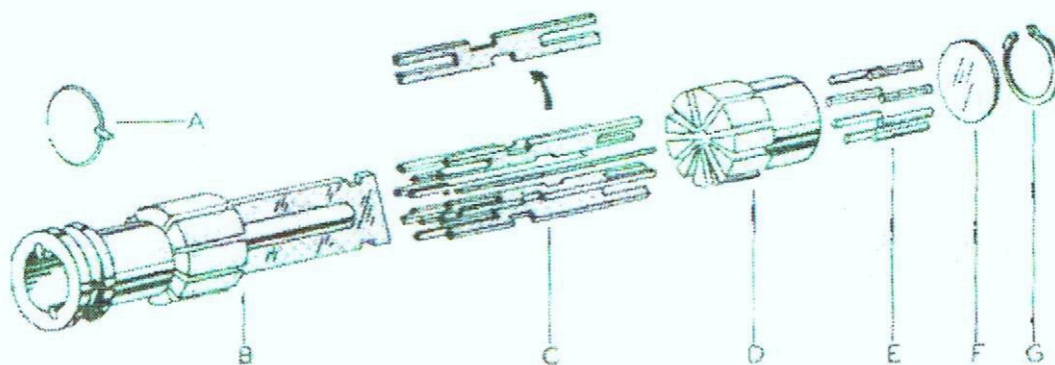

Figure 5
With the new combination determined, the plug is ready for disassembly, (See Figure 5). With No. 2 Tru-Arc pliers, the retainer ring (G, Figure 5) can be removed from the back
of the plug. This will allow the spring chamber (D, Figure 5) to be lifted away from the back of the plug. Note that the spring chamber will contain the tumbler springs (E) and the spring retainer plate (F). The nest of tumblers (C) now can be lifted from their chambers.